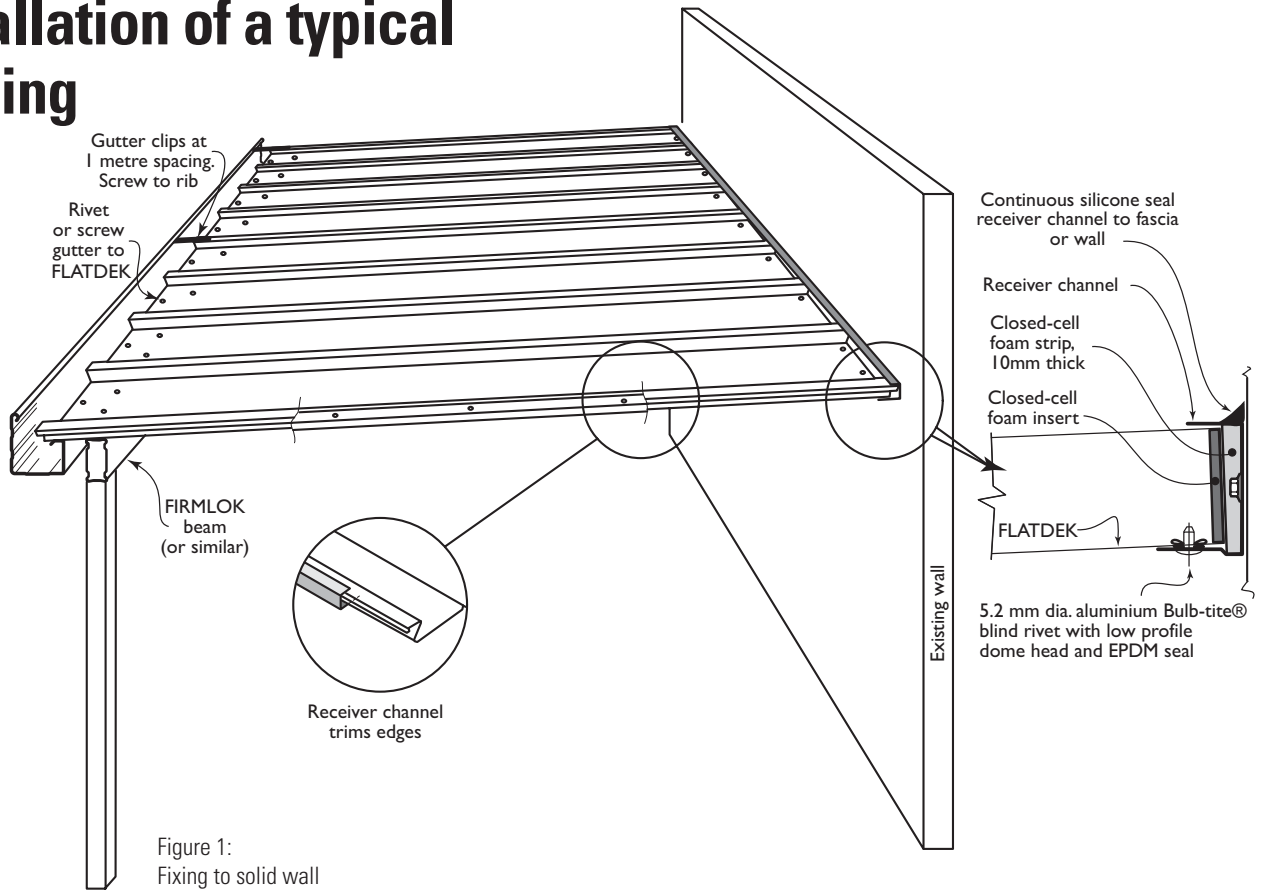

Figure 1:
A receiver channel is usually used to securely fix the FLATDEK roof to the main building—usually to the building fascia, but the channel can be fixed to any solid wall if there is sufficient height (Figure 1).
- Squeeze a closed-cell foam insert into the receiver channel and massage it to fit neatly all round as illustrated above (Figure 1).
- Fix the sheet at the receiver channel end (Figure 1).